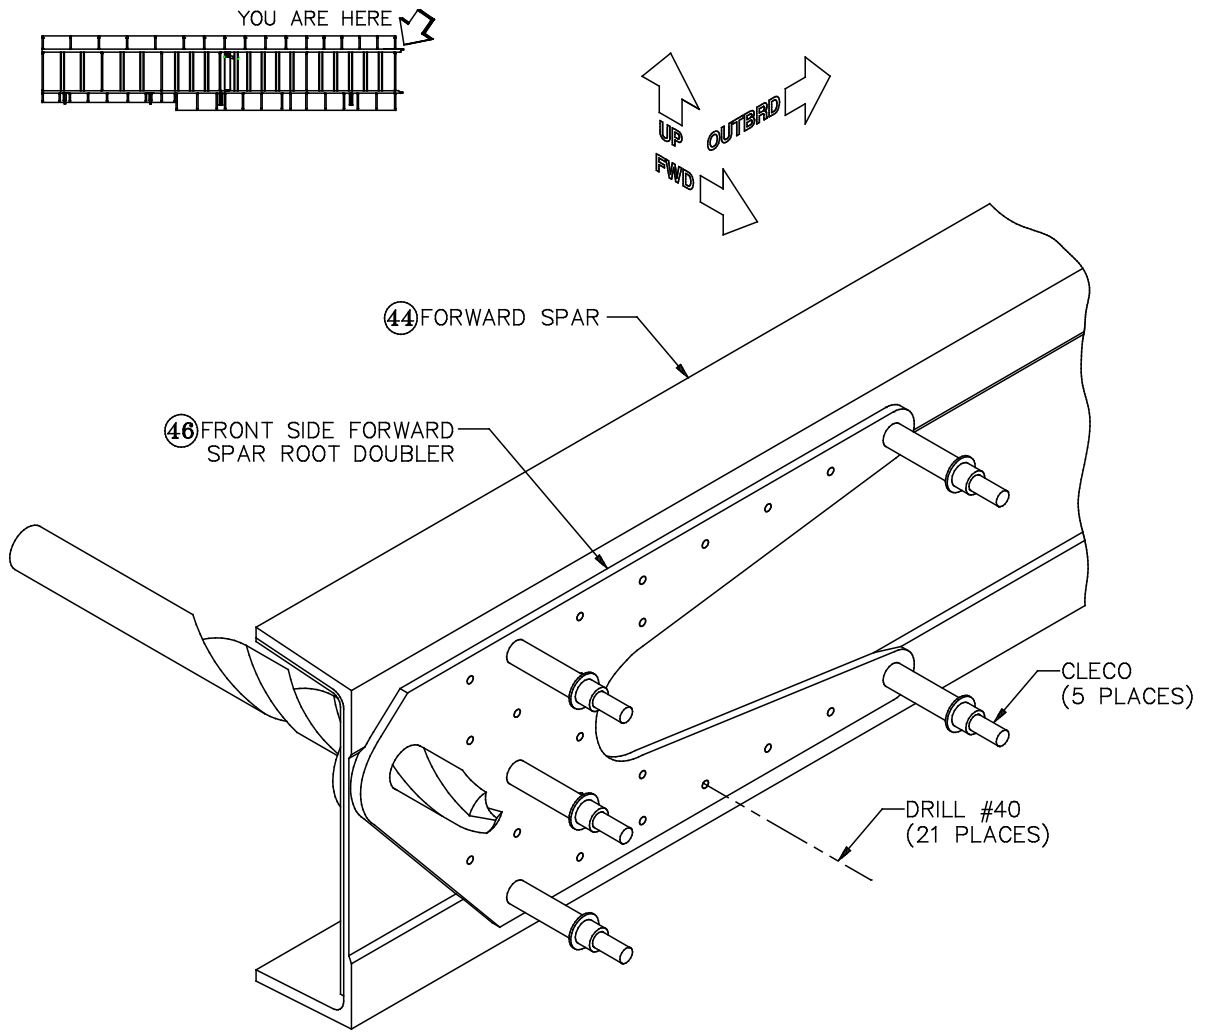

Figure 10: Front-Side Forward Spar Root Doubler
- c) Use the 9/16" drill bit to align the wing attach hole in the **front-side forward spar root doubler** [46] with the wing attach holes in the other three parts of the forward spar root assembly, as shown in Figure 10. Use the five #40 holes drilled so far to Cleco the front-side root doubler to the assembly. Make sure you use the correct front-side doubler—the **aft** face of the front-side doubler is machined to fit the contour of the spar web.